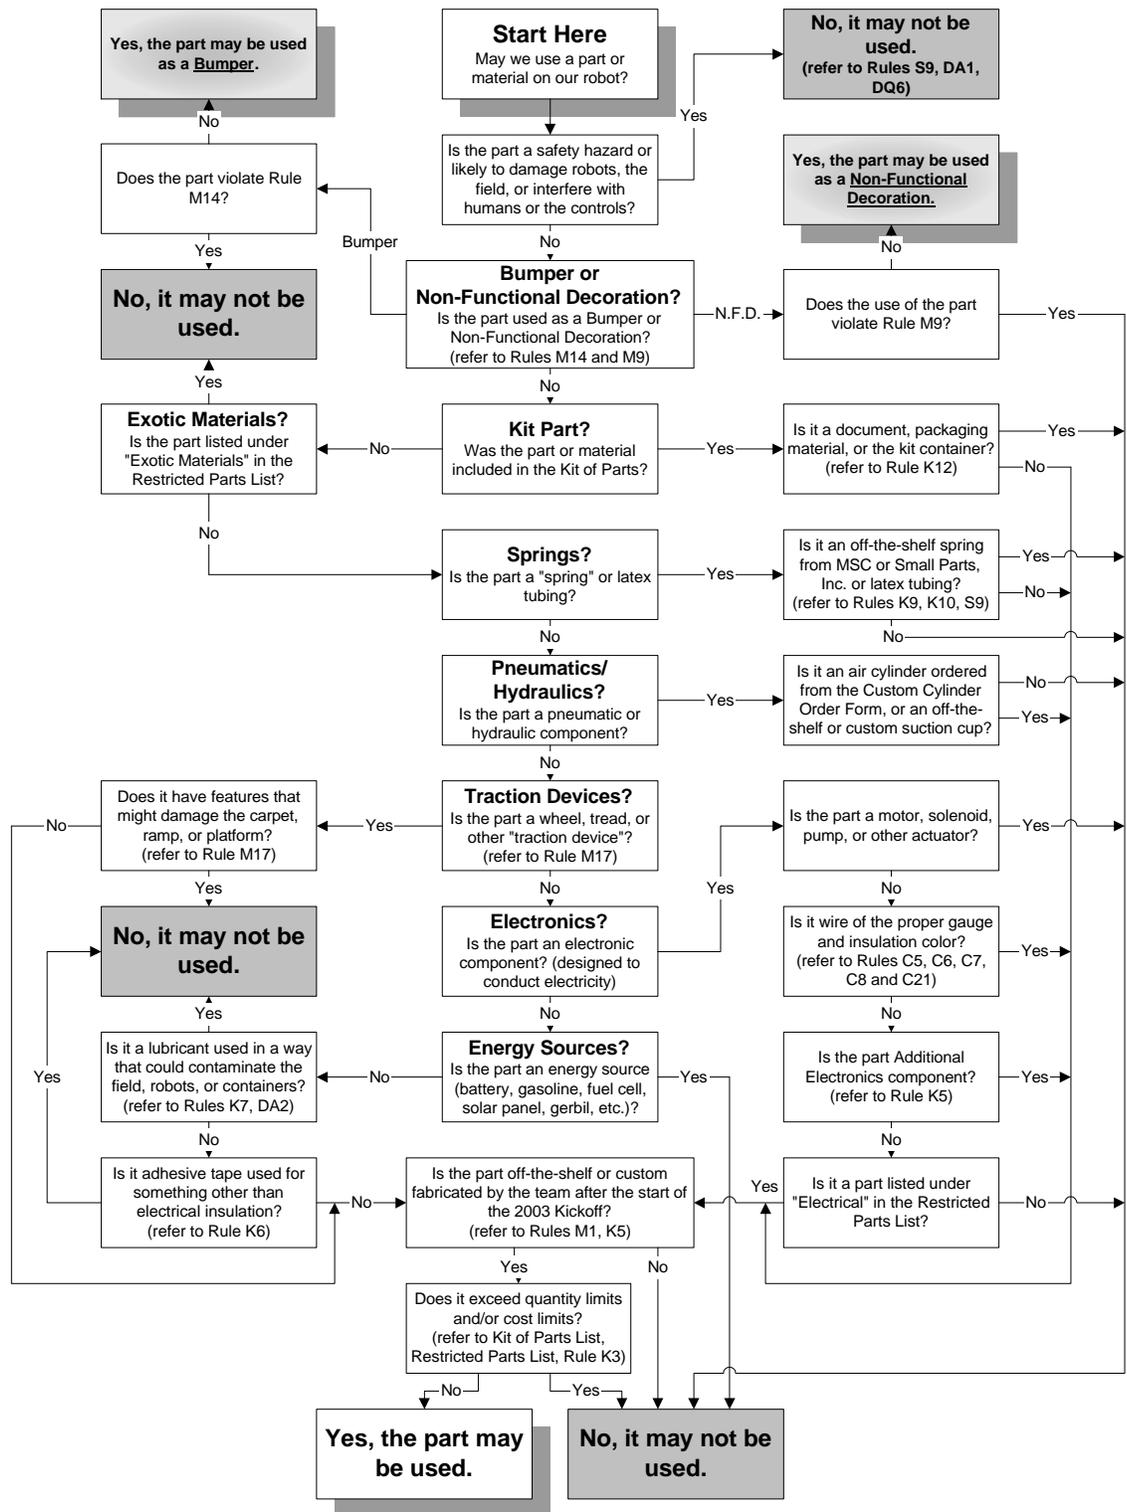

Figure 4.1 – Part Use Flowchart
- K1** Each robot must be constructed from components provided in the Kit of Parts ("the Kit") supplied by FIRST, and from "additional components" that satisfy the requirements of the Restricted Parts List (see Rule K2). Some of the components in the Kit are raw materials intended for manufacturing structural or mechanical parts for your robot. Before purchasing new parts or fabricating additional parts, refer to the Part Use Flowchart (Figure 4.1) to determine if a part or material is permitted for use on your robot.